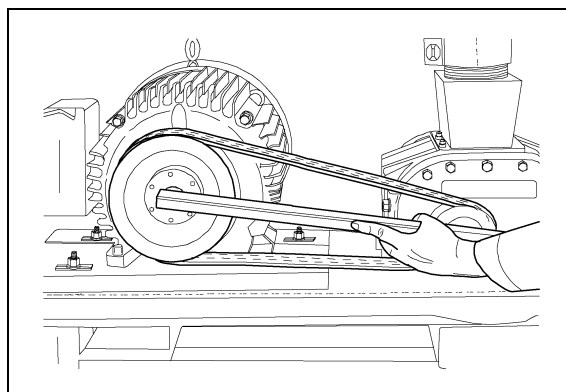

Figure 4I
4. Place the pulley and taper lock bushing onto the motor and align it with the blower pulley. (See Figure 4I).